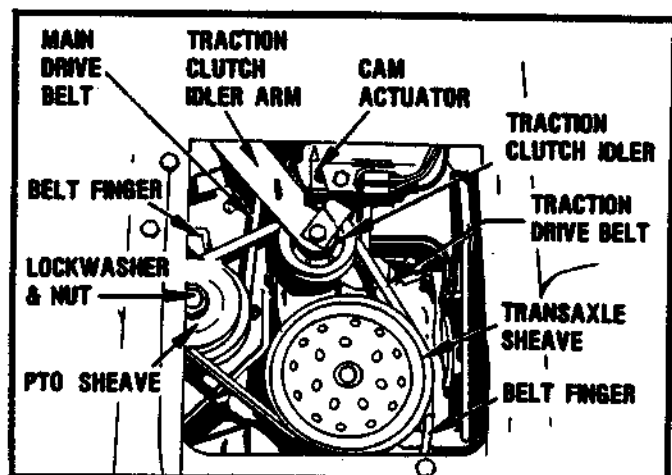

FIGURE 17
10. Loosen fasteners holding two belt fingers around traction drive belt to frame, and rotate fingers away from belt. See Figure 17.
11. Depress Clutch Pedal with left foot and unwrap traction drive belt from transaxle and upper groove of top PTO sheave. See Figure 17.
12. Release clutch, disconnect traction clutch spring from traction clutch idler arm. (Use vise grips). See Figure 17.
13. Rotate attachment idler until hair pin at top of idler assembly pivot pin can be removed rearward. See Figure 17.
9. Wrap main drive belt around lower (larger groove on top PTO sheave.) See Figure 17.
12. Grasp traction clutch idler spring with vise grips and connect hook to traction clutch idler arm. See Figure 17.
13. Depress traction clutch pedal and wrap traction drive belt around upper groove on PTO sheave and transaxle sheave. DO NOT PRY. See Figure 17.
TRACTION DRIVE BELT REPLACEMENT — FIGURE 17